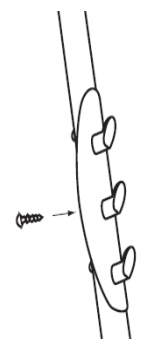

Figure 6
Attach the provided 3 hook **Towel Holder (H)** on the preferred side of your Lifter by simply snapping it into place and inserting the middle self-tapping screw (See Figure 6).